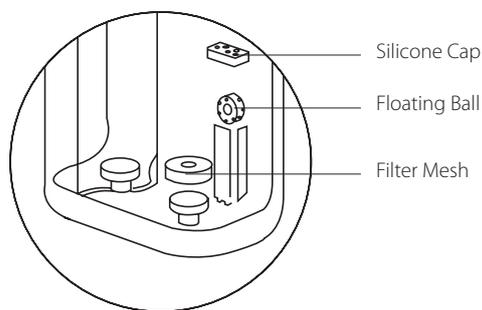

Figure 1
- 1) Pull out the silicone cap first, then take out the floating ball (Figure 1).
- 2) Pull out the filter mesh (Figure 1).